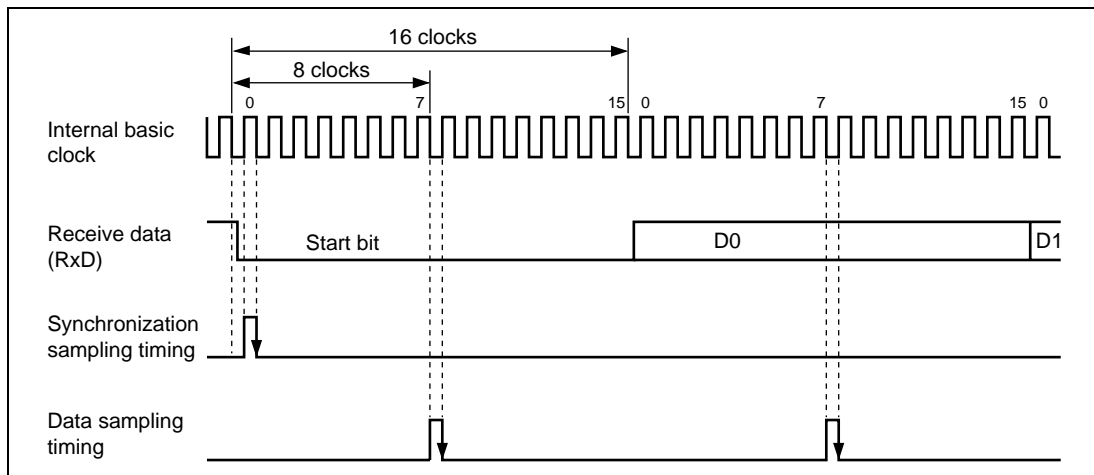

Figure 10.3 Receive Data Sampling Timing in Asynchronous Mode
In asynchronous mode, the SCI operates on a basic clock with a frequency of 16 times the bit rate. In reception, the SCI samples the falling edge of the start bit using the basic clock, and performs internal synchronization. Receive data is latched internally at the rising edge of the 8th pulse of the basic clock as shown in figure 10.3. Thus the reception margin in asynchronous mode is given by formula (1) below.